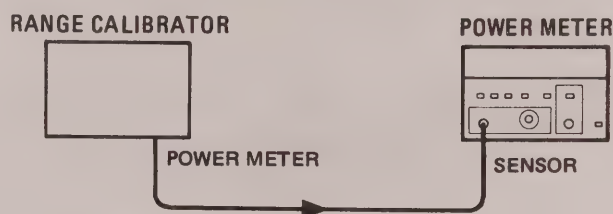

Figure 5-2. Auto Zero Offset Adjustment Setup
3. Connect the equipment as shown in Figure 5-2.